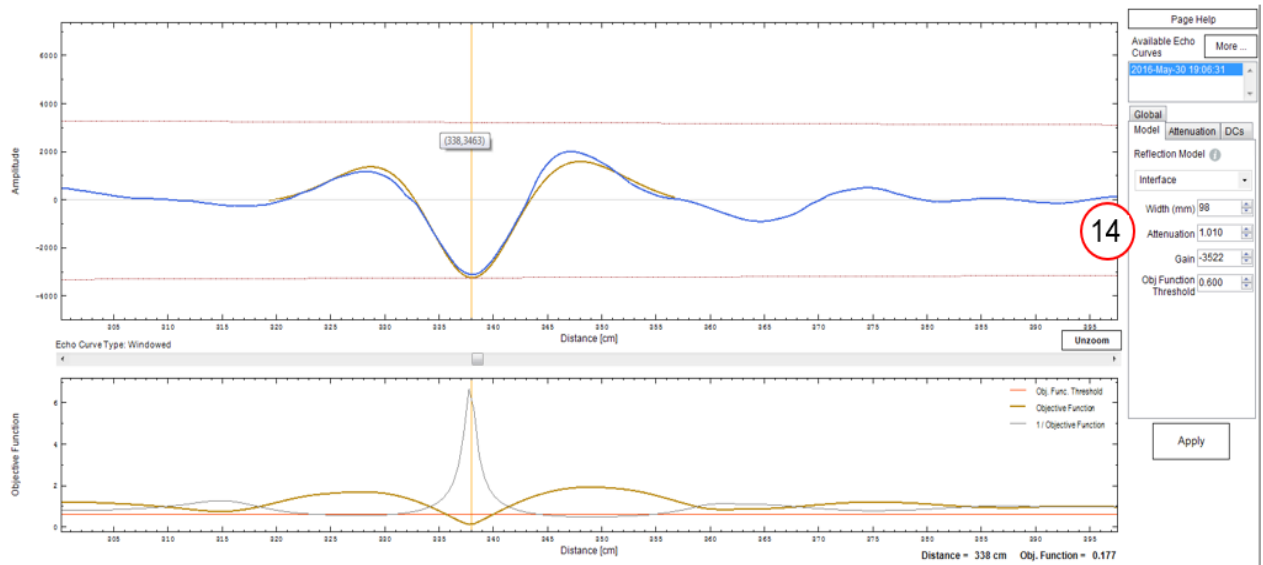

Figure 28: Adjusting the Width and Attenuation Parameters
- If the algorithm is still not finding a match then the model's other parameters, Width and Attenuation, can be adjusted to get an even closer match between the model and the curve. Note that it may be necessary to collect echo curves with various levels of product to ensure that the reflection model provides a good match through the full range. Figure 28 shows the example with the Gain, Width and Attenuation parameters optimized to give an Object Function reading of 0.177.